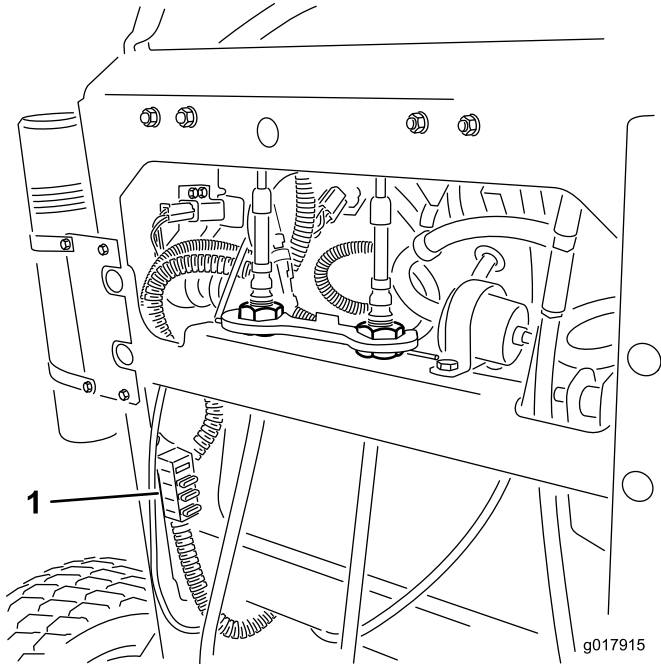

Figure 55
2. Pull out on the fuse to remove or replace it (Figure 55).
**Note:** Ensure that the correct-size fuse is installed Figure 55.